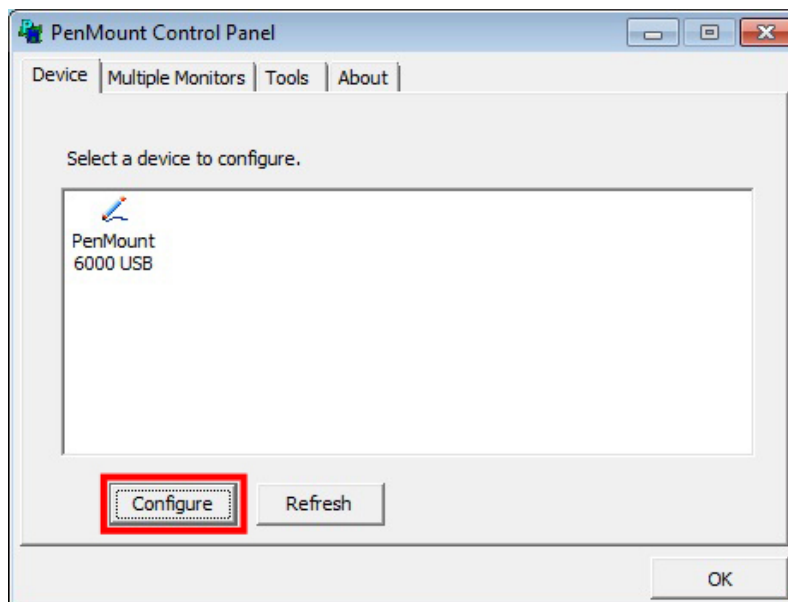

Figure 6-34: Touchscreen Control Panel
Step 3: The touchscreen control panel appears (**Figure 6-34**). Click **Configure**.